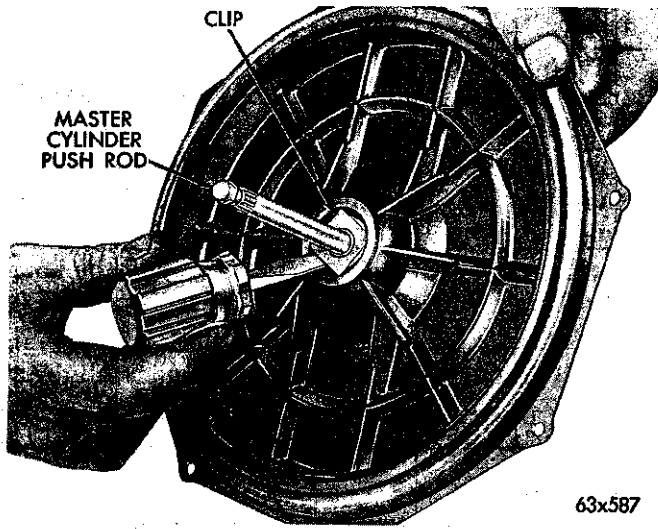

Fig. 18—Removing Push Rod Retainer
(5) Holding the two shells together, remove the booster from the vise and carefully separate the two shells.
(6) Remove the return spring.
(7) Remove the master cylinder push rod retainer (Fig. 18).